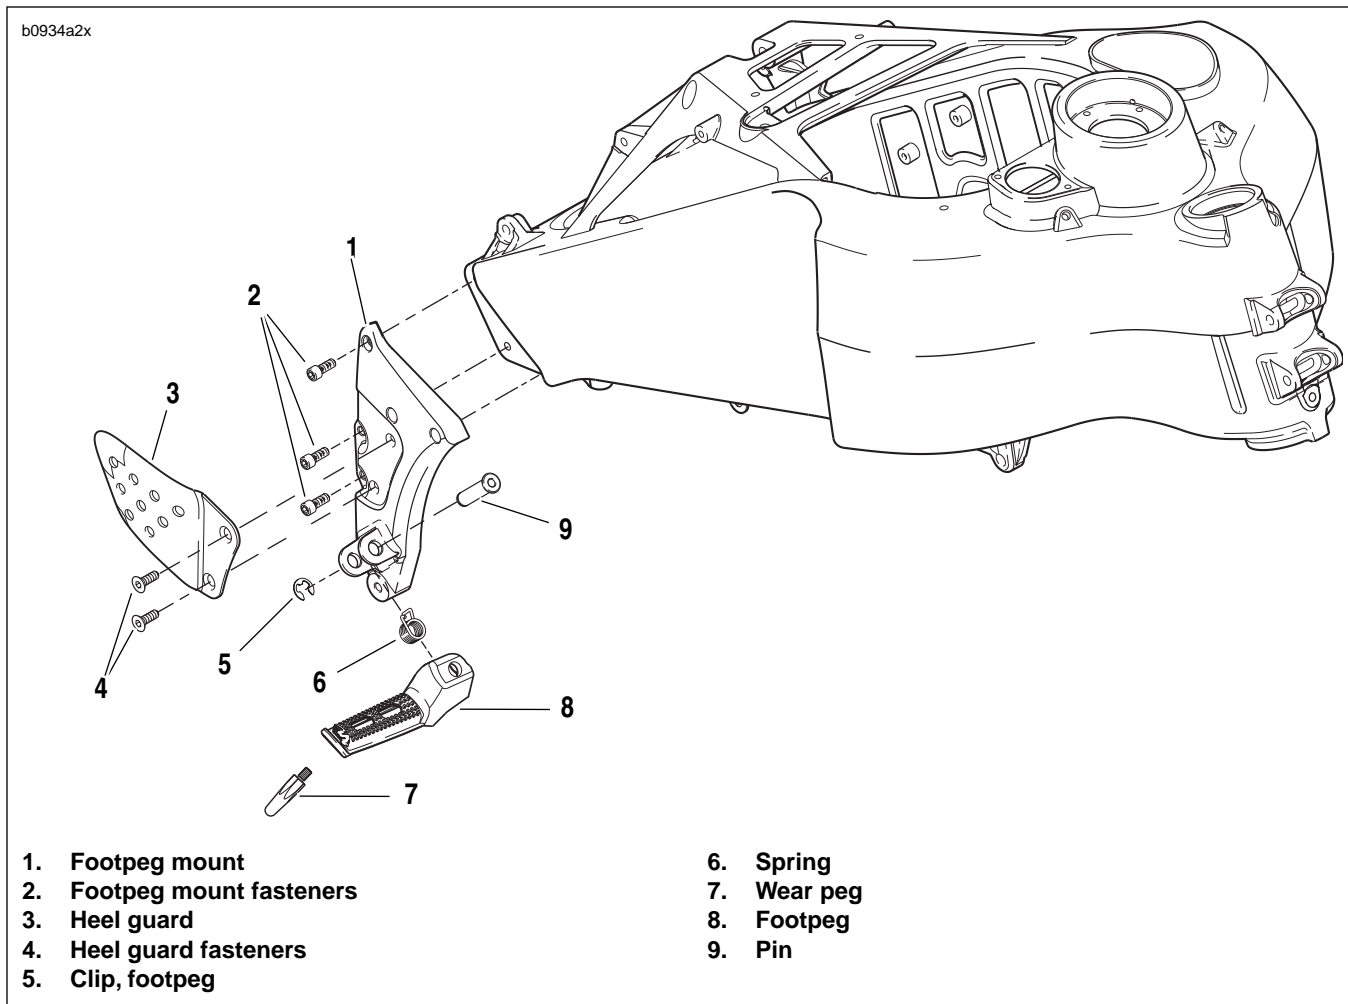

Figure 2-114. Rider Footpeg, Mount and Heel Guard Assembly
1. See Figure 2-114. Remove wear peg from end of footpeg assembly.
1. See Figure 2-114. Remove clip (5).
2. Remove footpeg pin (9).
3. Remove footpeg (8).
1. See Figure 2-114. Remove heel guard fasteners (4).
2. Remove heel guard (3).
1. See Figure 2-114. Remove footpeg mount fasteners (2).
2. Remove footpeg mount (1).
1. See Figure 2-114. Position footpeg mount (1).
2. Install footpeg mount with fasteners (2). Tighten to 108-132 **in-lbs** (12.2-14.9 Nm).
1. See Figure 2-114. Position heel guard (3) onto footpeg mount (1).
1. See Figure 2-114. Position spring (6) in footpeg (8).
2. Position footpeg (8) on to footpeg mount (1).
3. Install footpeg pin (9).
4. Install footpeg clip (5).
1. See Figure 2-114. Apply Loctite 272 (Red) and tighten to 36-48 **in-lbs** (4.1-5.4 Nm).